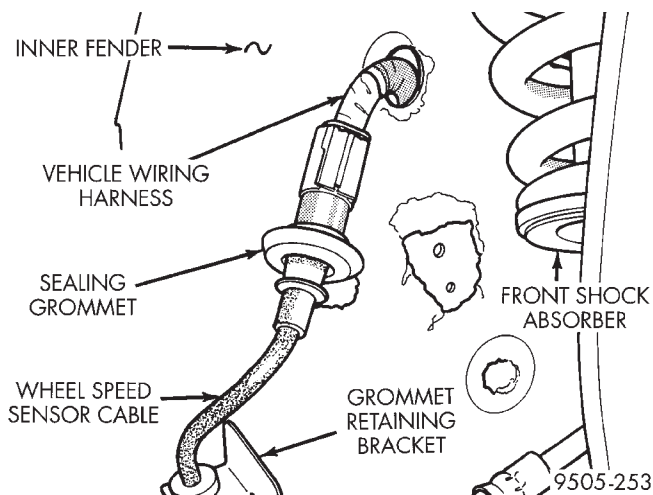

Fig. 28 Wheel Speed Sensor Cable Connection To Vehicle Wiring Harness
(12) On vehicles equipped with antilock brakes, remove speed sensor cable sealing grommet from inner fender (Fig. 28). Then disconnect the wheel speed sensor cable from the vehicle wiring harness (Fig. 28). Push vehicle wiring harness back through hole in inner fender and unclip wiring harness trough from frame rail.
(13) If vehicle is not equipped with antilock brakes, just a sealing plug will be installed in the wheel speed sensor cable routing hole. Remove the sealing plug from the hole.
(14) On a vehicle equipped with antilock brakes, clip the vehicle wiring harness back on the right frame rail. Then route wiring harness connector for the wheel speed sensor cable through routing hole in inner fender. Connect vehicle wiring harness to wheel speed sensor cable (Fig. 28).